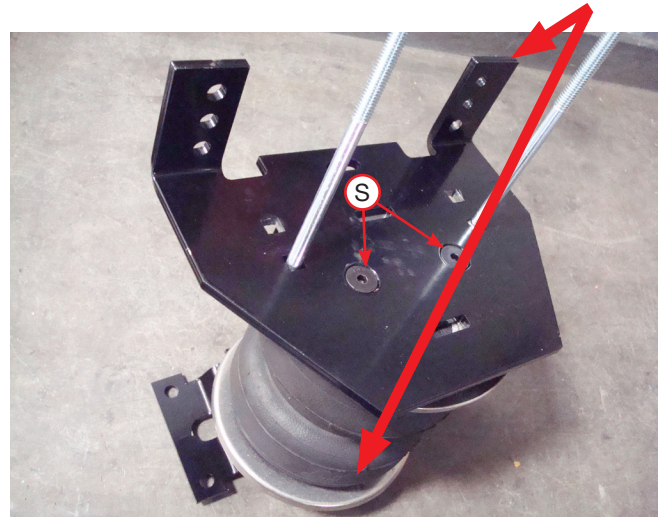

Fig. 12
Set the lower bracket main plate assemblies onto the air springs with the roll plates installed. Attach with 3/8"-24 X 3/4" flat-head socket-cap screws (S) (Fig. 12). Torque the hardware to no more than 20 lbs.-ft. (27Nm).